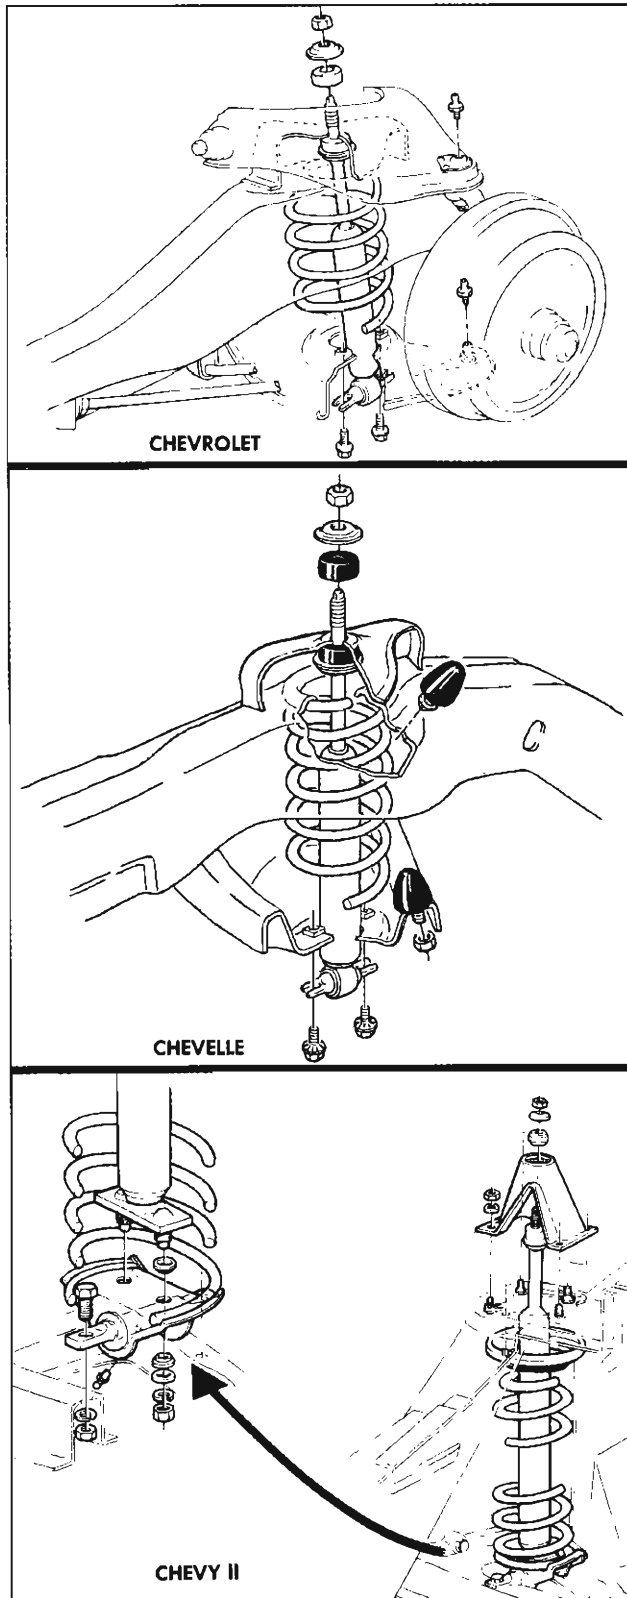

Fig. 13—Shock Absorber
#### Chevrolet and Chevelle (Fig. 13)
1. Assemble upper washer and rubber bushing to shock absorber rod (refer to Figure 13).